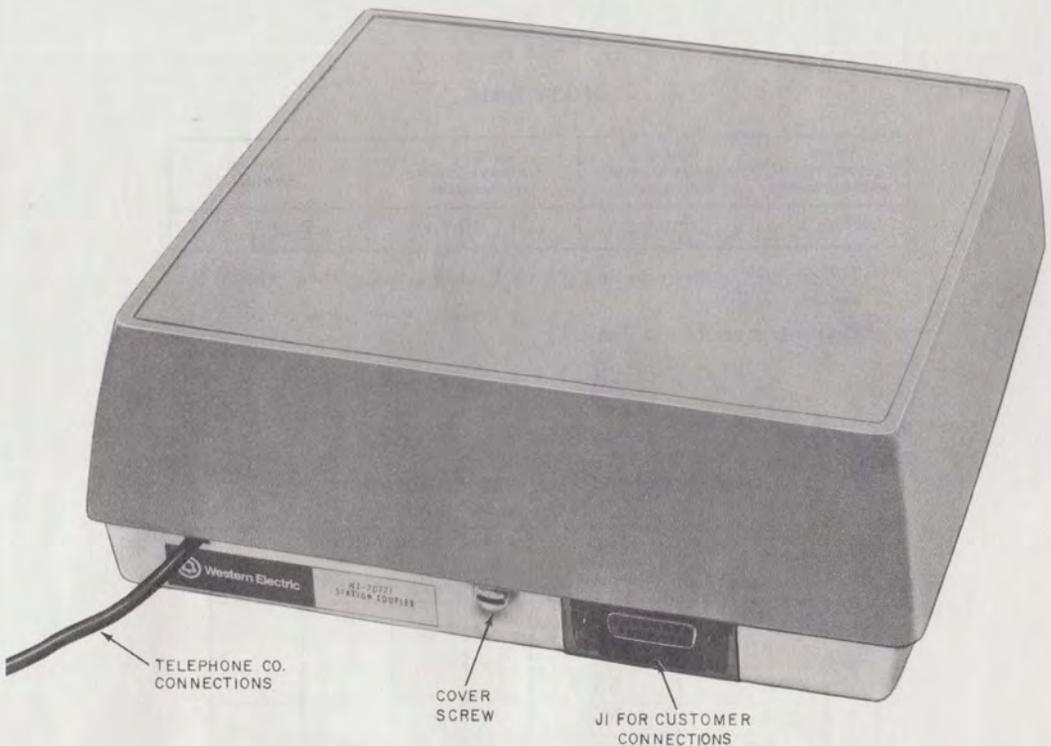

Fig. 1—KS-20721, List 1, Station Coupler
- Coupler, Station, KS-20721, L1 (Fig. 1 and 2)
3.02 A 15-pin connector (J1, Fig. 1) is located on the base of the unit to connect the pulsing and muting leads to the CPE. The mating ITT-Cannon Electric or Cinch Mfg. Co. plug No. DA-19603-403 with hood No. DA-51225-1 is customer provided. Screw terminals on the left side of the printed circuit board provide connections to dial and receiver of the telephone set, and 2012B power transformer (or power supply). Flexible jumper leads with connectors provide for installation options.